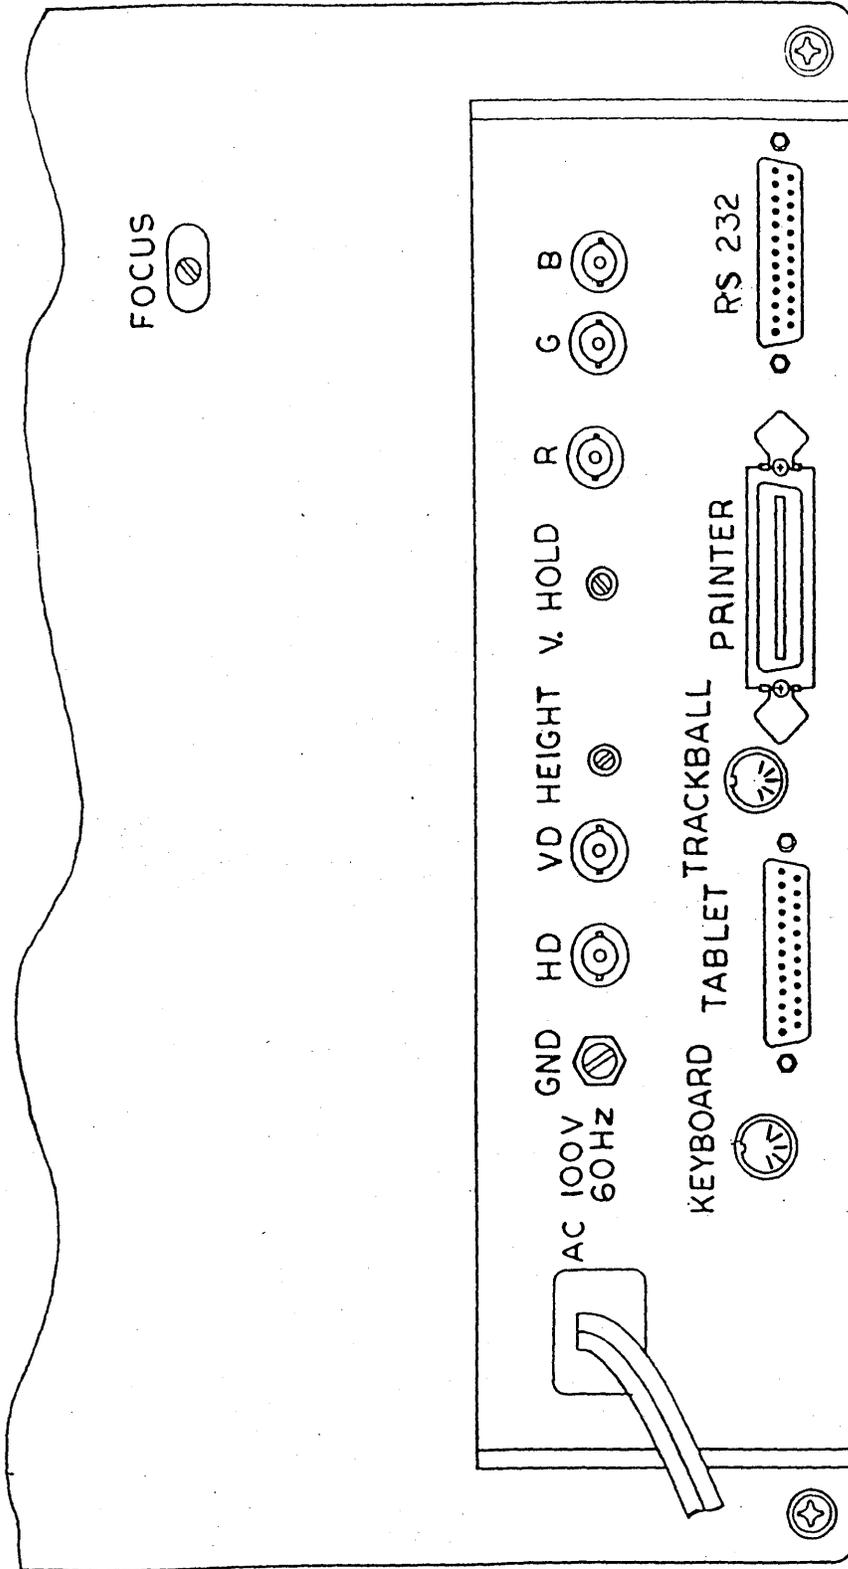

Figure 11.1 Model One/10 Back Panel
After you have unpacked the monitor, keyboard, and tablet and have recorded their serial numbers, look at the monitor's back panel (see Figure 11.1). Notice that there are five ports, or connections, for cables. These ports are labeled:
- 2 Remove the back plastic panel of the Model One/10. See Figure 11.1.